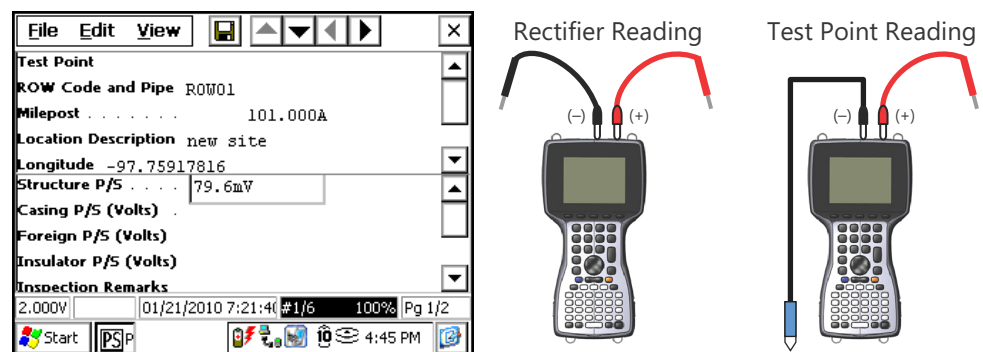

Figure 5-1. PS Survey Route
- 2 Click the **PS** icon on the Allegro desktop to start the software (Figure 5-1).